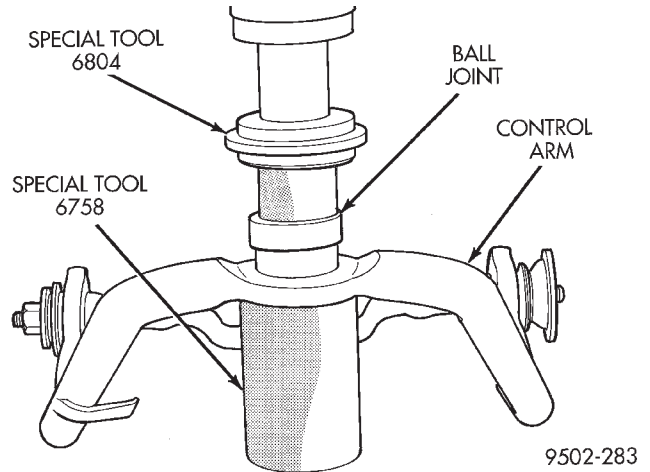

Fig. 55 Installing Ball Joint In Upper Control Arm
(1) By hand, position ball joint assembly into ball joint bore of control arm. Be sure ball joint assembly is not cocked in the bore of the control arm, this will cause binding of the ball joint assembly, when being pressed into lower control arm.
(2) Position assembly in an arbor press with Receiving Cup, Special Tool 6758 supporting lower control arm (Fig. 55). Then install Remover/Installer,
Special Tool 6804 on the top of the ball joint assembly (Fig. 55).